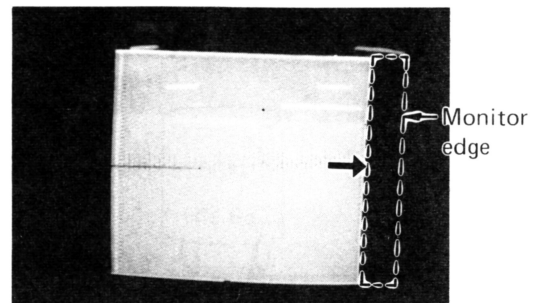

Fig. 4-8
1. At completion of the previous section, the pickup tube black mask appears at the right edge of the picture (Fig. 4-8).